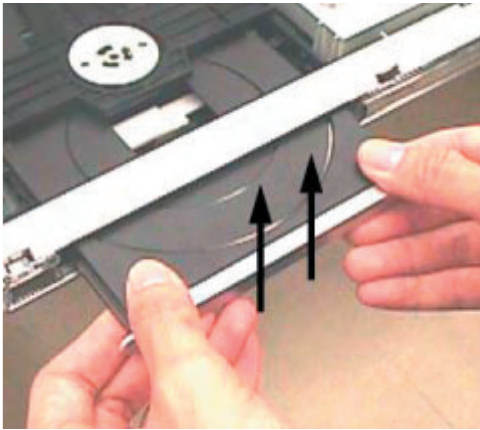

Figure 4-2
- 2) Slide out the tray and remove the Cover Tray (pos 110) as shown in Figure 4-2.